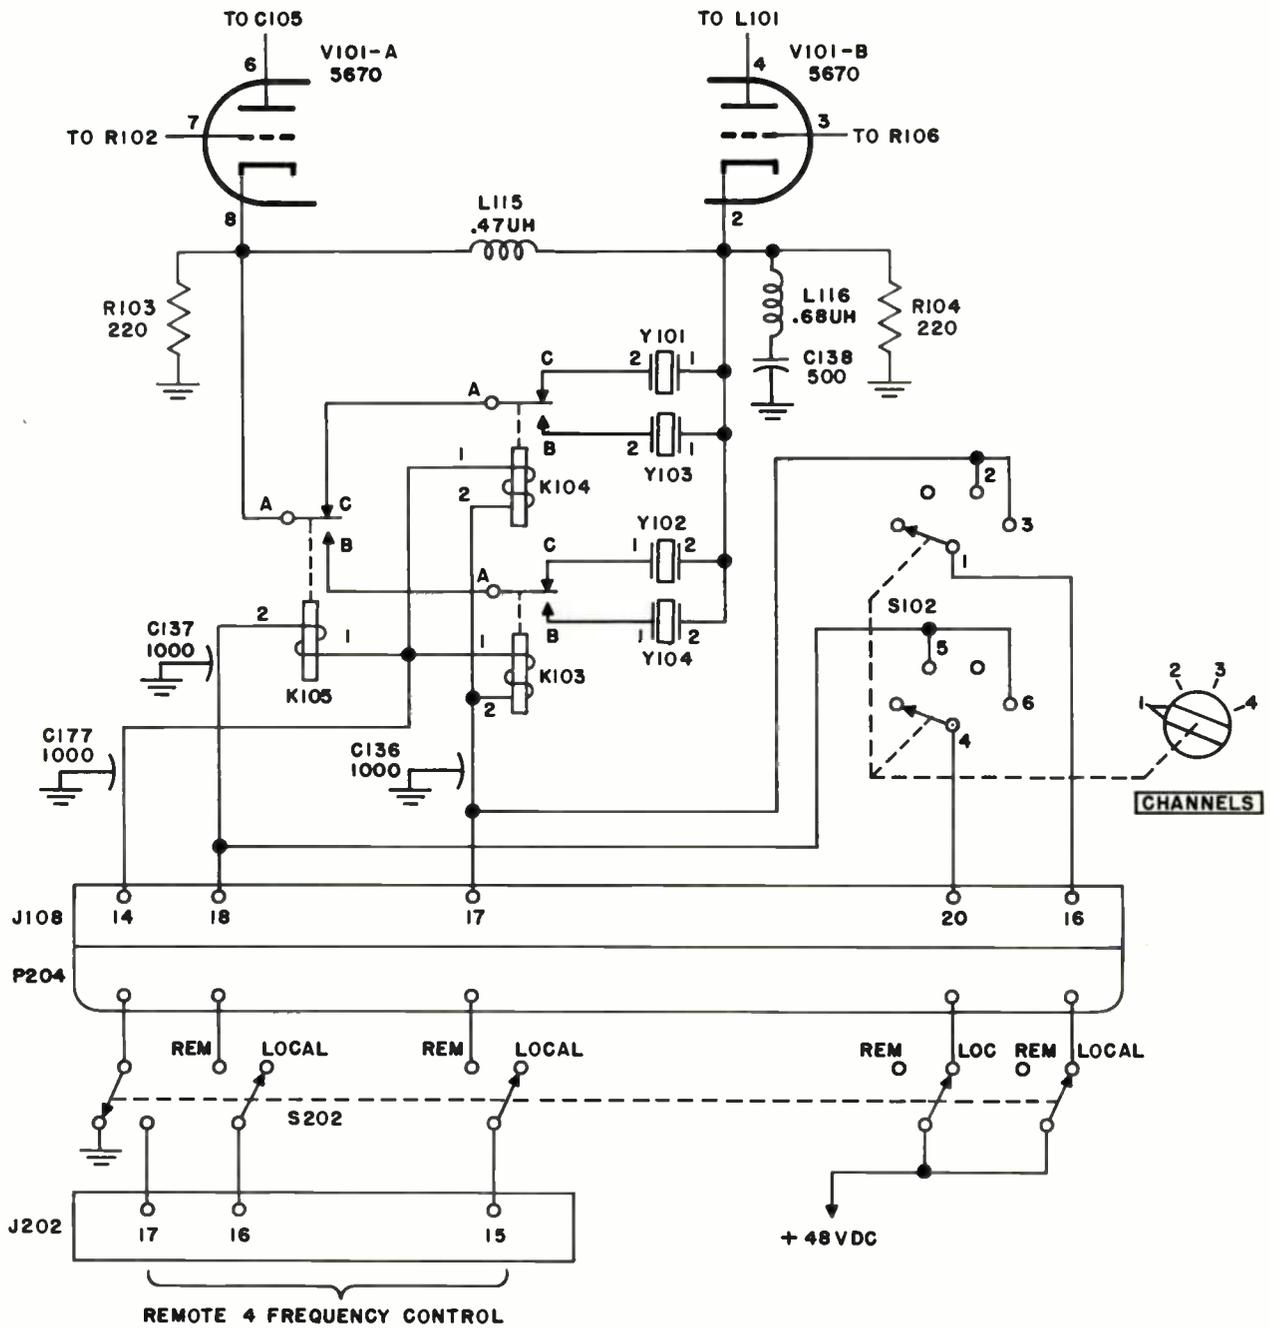

Figure 4-11. Four-Frequency Modification
4.3.4 TRANSMITTER 242F-5CL, FOUR-FREQUENCY CIRCUITS. (Refer to figure 4-11.)
Modified type 242F-5CL transmitters providing four-frequency operation have circuitry changes in the oscillator stage. Three relays K103, K104, and K105, are used to select one of four crystals for the oscillator which includes V101-A and V101-B. For local operation, refer to CHANNEL switch S102 in figure 4-11. With S102 in channel 1 position, none of the